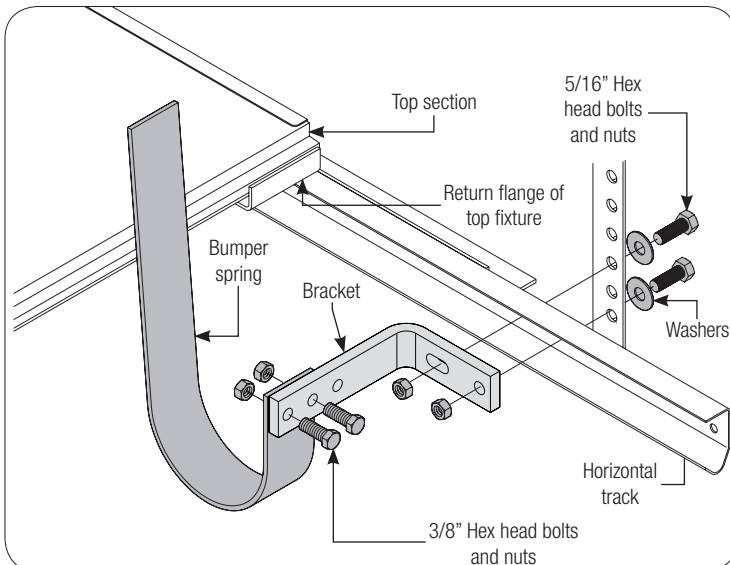

FIG. 6.1
Refer to the installation instruction manual for installing the rear back hang supports prior to installing the bumper springs. Attach the bumper spring to the "L" shaped bumper spring bracket using (2) 3/8" x 1" bolts. Raise the door to 2" - 4" past the fully open position. Align bumper spring with the return flange of the top fixture. Attach the bumper spring assembly to the horizontal track using supplied fasteners, shown in **FIG. 6.1**. **DO NOT WELD.**